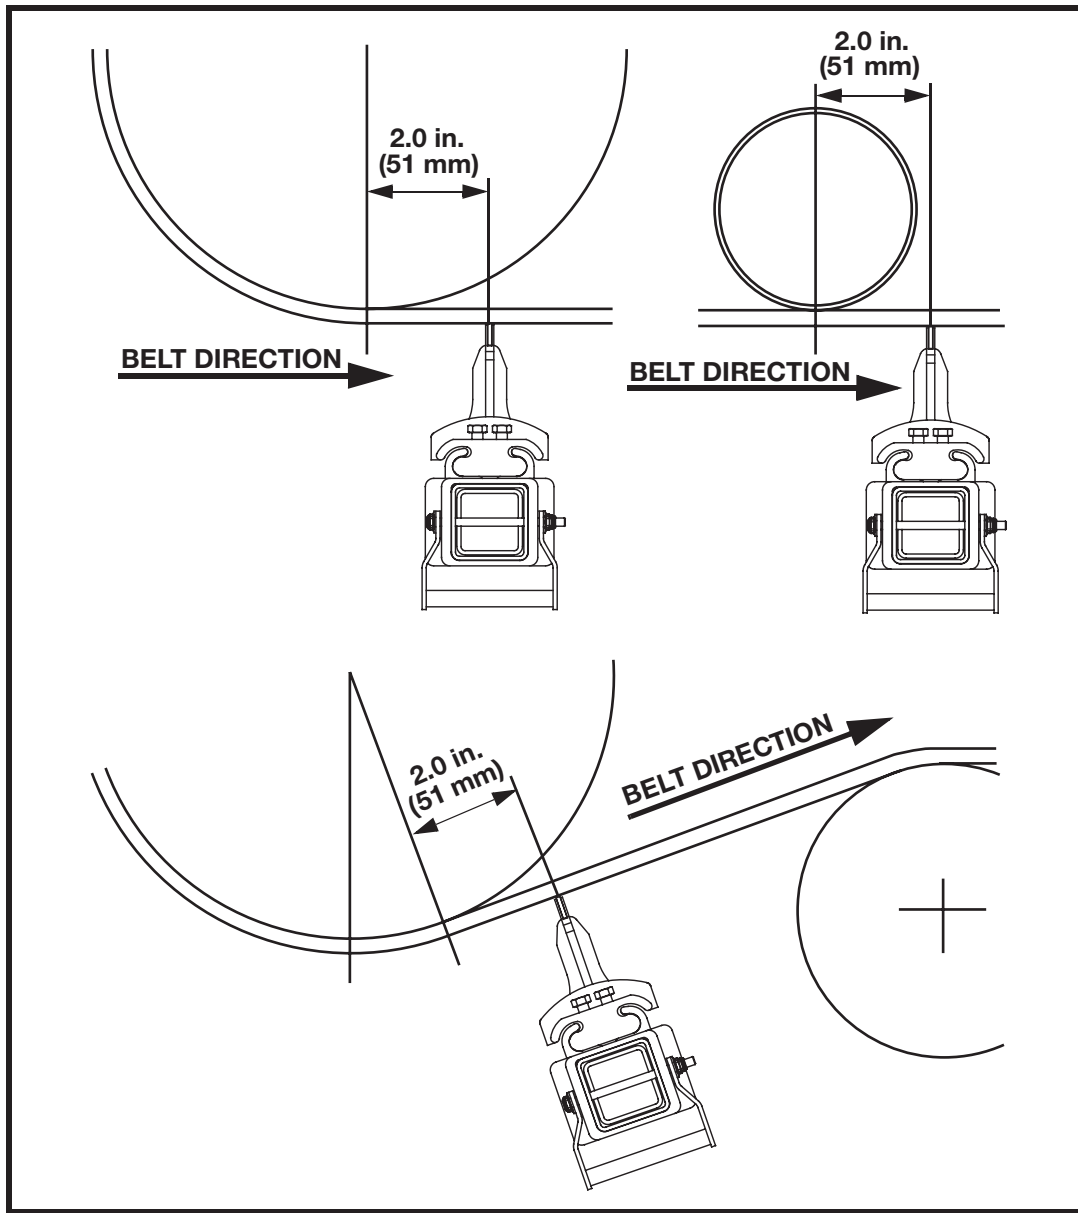

Figure 1. Primary Belt Direction
1. On the return side of the belt, locate the tangent point at which the belt leaves the head pulley. Measure a distance 2.0 in. (51 mm) and draw a line perpendicular to the belt at this point. See Figure 1.
For installation below pressure rollers, mark the vertical line 2 in. (51 mm) from the centerline of the roller. See Figure 1.